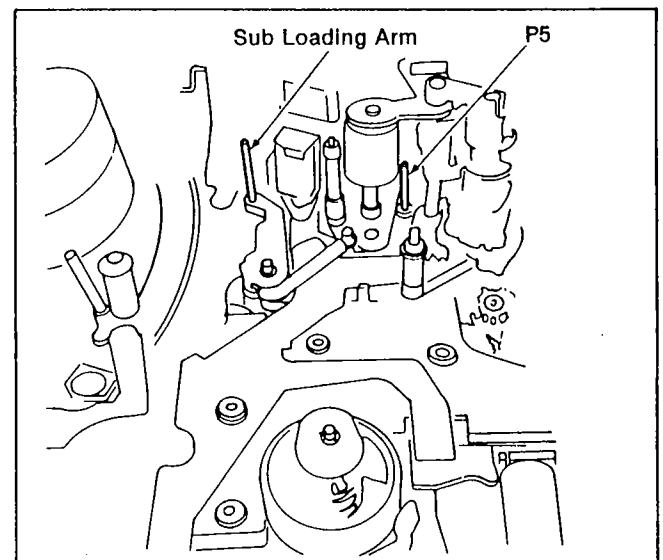

Figure MA4
6. Repeat item 4 and 5 until mechanism come to stop (sub loading) position as shown in Figure MA4. (STOP position is same as FF/REW position, therefore, when you rotate the capstan motor in STOP position, supply or Take up reel table is rotated corresponding with direction of rotation)